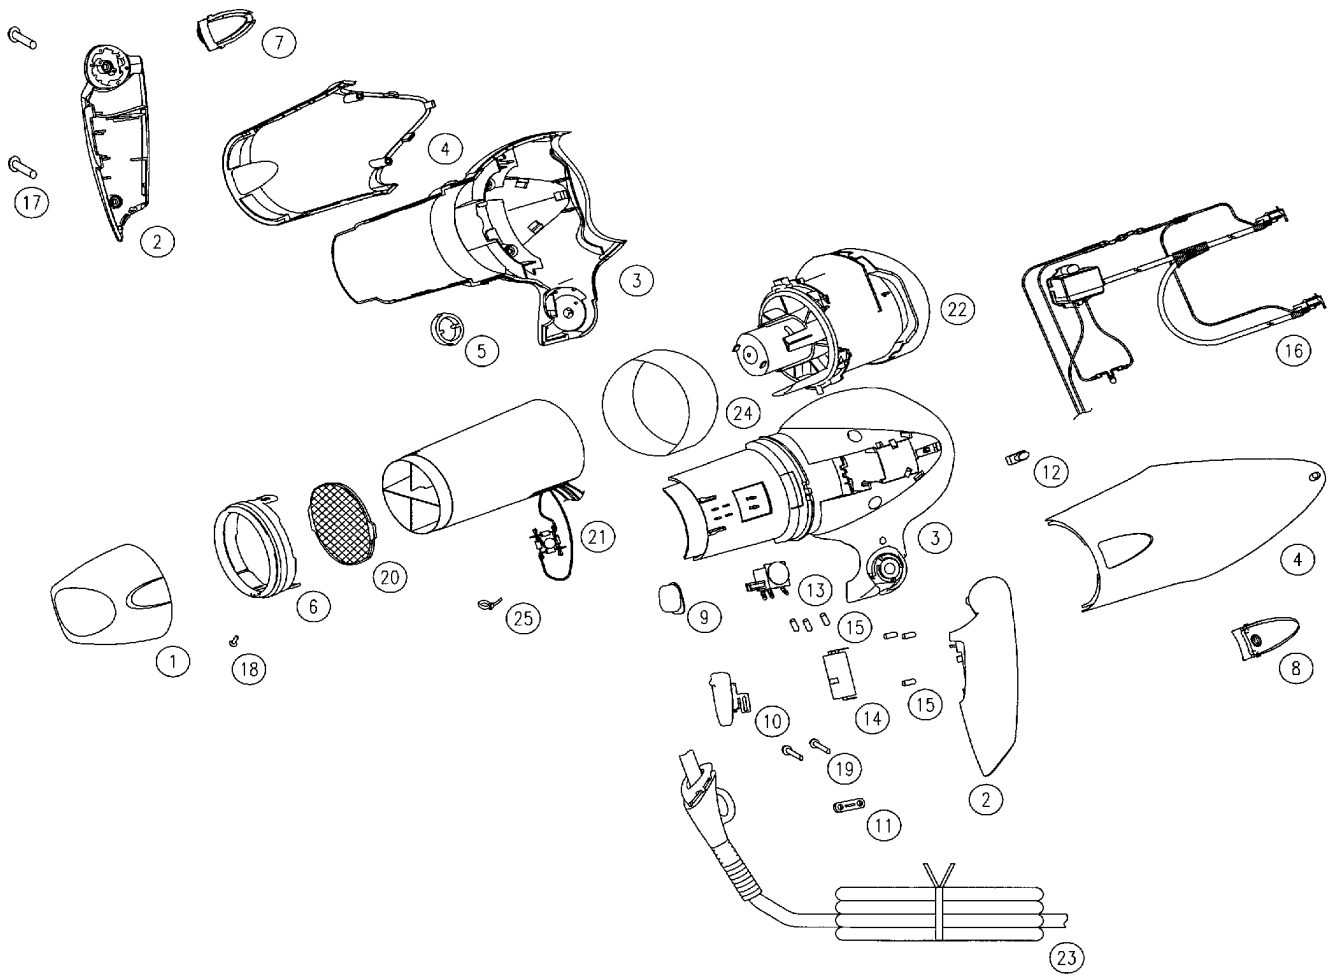

Figure 15
4. Separate Outside Housing from Inside Housing by apply force at indicated position as shown in Figure 15.